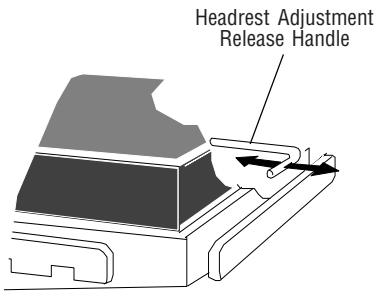

Figure 4-8. Headrest Positioning
1. See Figure 4-8. Locate release handle (under right side of headrest) and pull to release (spring-loaded).